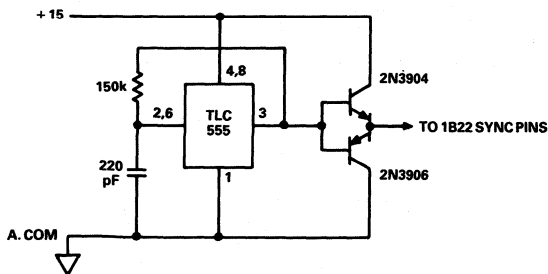

Figure 5. Multiple 1B22s' Synchronization
**Synchronizing Multiple 1B22s:** In applications where multiple 1B22s are used in close proximity, radiated individual oscillator frequencies may cause "beat frequency" related output errors. These errors can be eliminated by driving the SYNC pins of all the units with a 40 kHz clock circuit at 50% duty cycle (Figure 5). The SYNC input typically has an input impedance of 150 kΩ||180 pF.